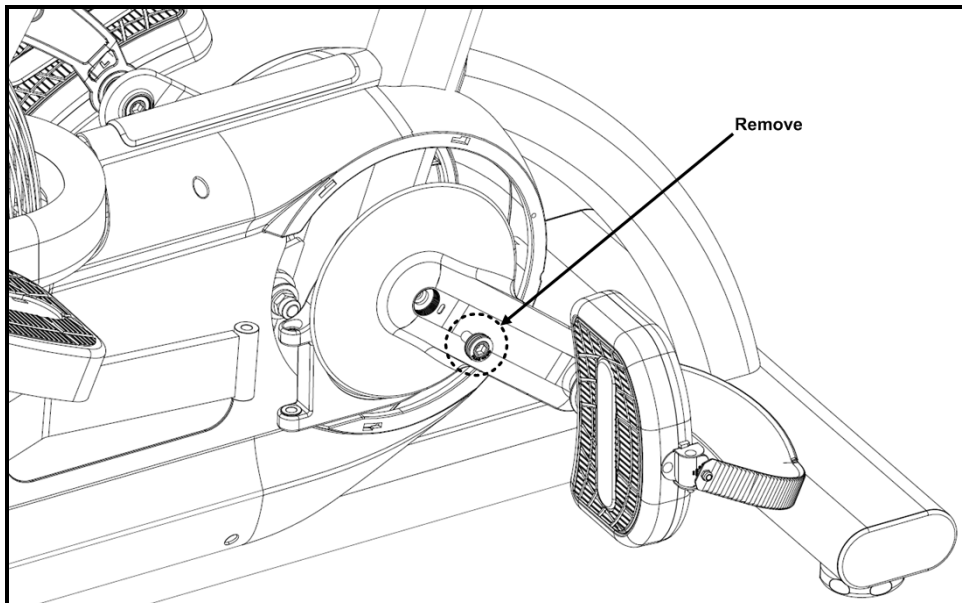

Fig. 3
3. Using a 5mm hex key; remove the left & right crank arm specialized socket head securing screw (Fig. 3) from the crank arms.